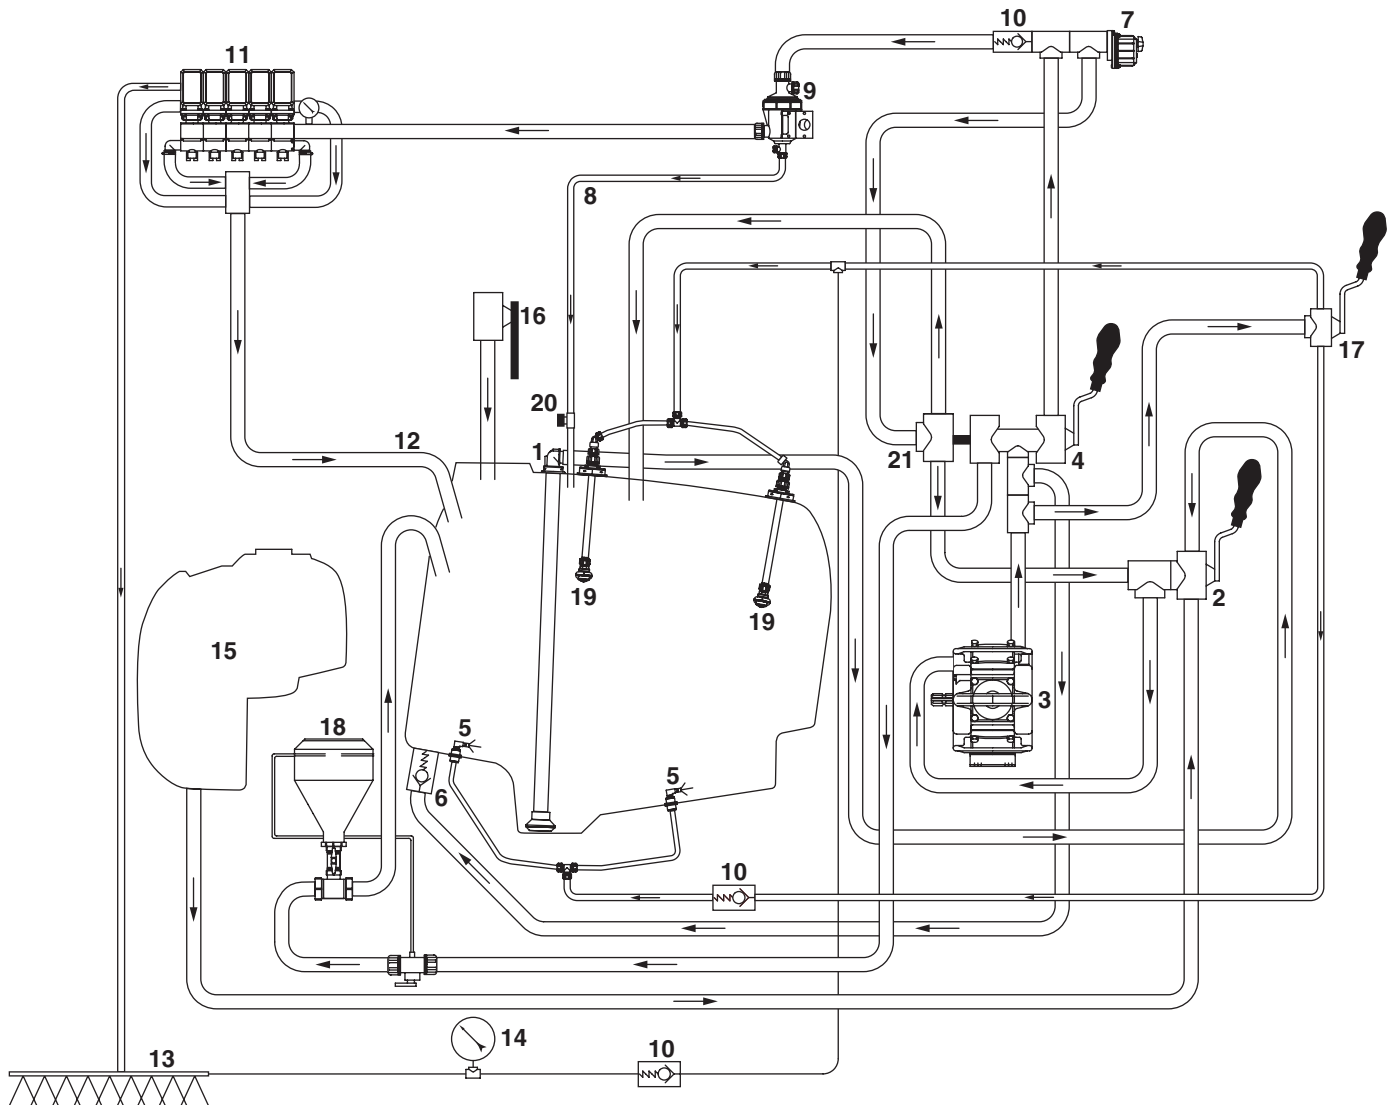

*Fig. 14*
If the boom rests too far in on the transport brackets, loosen the nut (**B** *Fig 14*) and adjust collar (**A** *Fig 14*) in towards the cylinder housing.
If the boom rests too far out on the transport brackets, the collar (**A** *Fig 14*) has to go out from the cylinder housing.
4. Secure jam nut (**B** *Fig 14*).